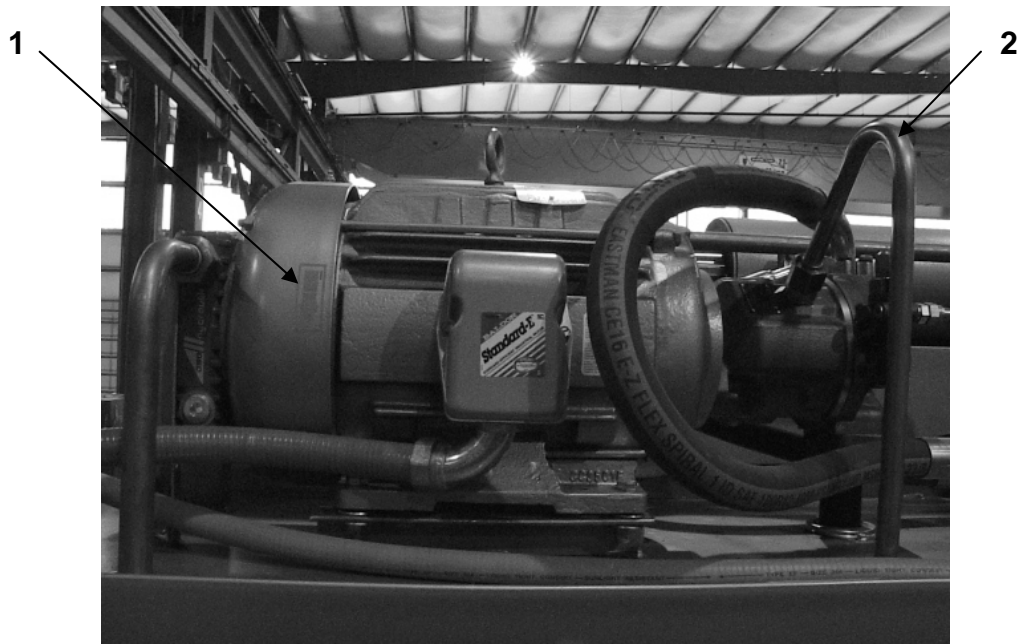

Figure 6: Hydraulic Pump/Motor Assembly Unit
Electrical connection of the 3-phase systems requires proper phasing. When connecting the press to a 3-phase power source, the rotational direction of the pump drive motor must be correct. The motor must rotate in the direction of the arrow on the electrical motor (See *Figure 6*). A licensed electrician should perform all electrical connections.
1. Locate the pump case drain port (*See Figure 6 Item 2*).